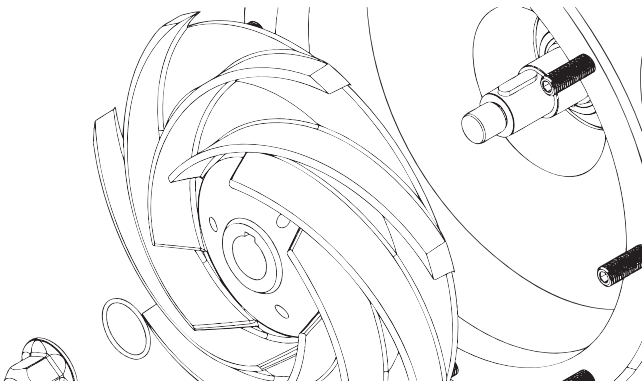

Figure 35
8. Install impeller and impeller key, if it is not already in the stub shaft. **Figure 35.** Note driving pins in impeller hub will go into the large slots in the front of the single seal driver. Replace the impeller nut gasket and impeller nut and torque to the correct value.